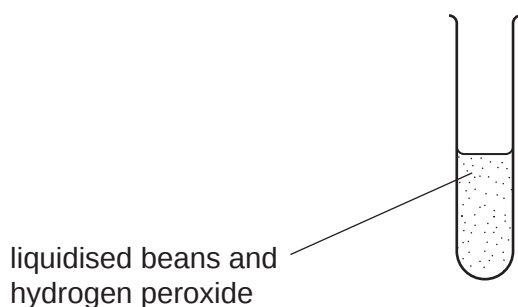

Fig. 1.2
- (f) (i) Fig. 1.2 shows a test-tube containing liquidised beans and hydrogen peroxide solution.
Complete Fig. 1.2 to show the assembled apparatus used to collect and measure the **volume** of oxygen gas produced.